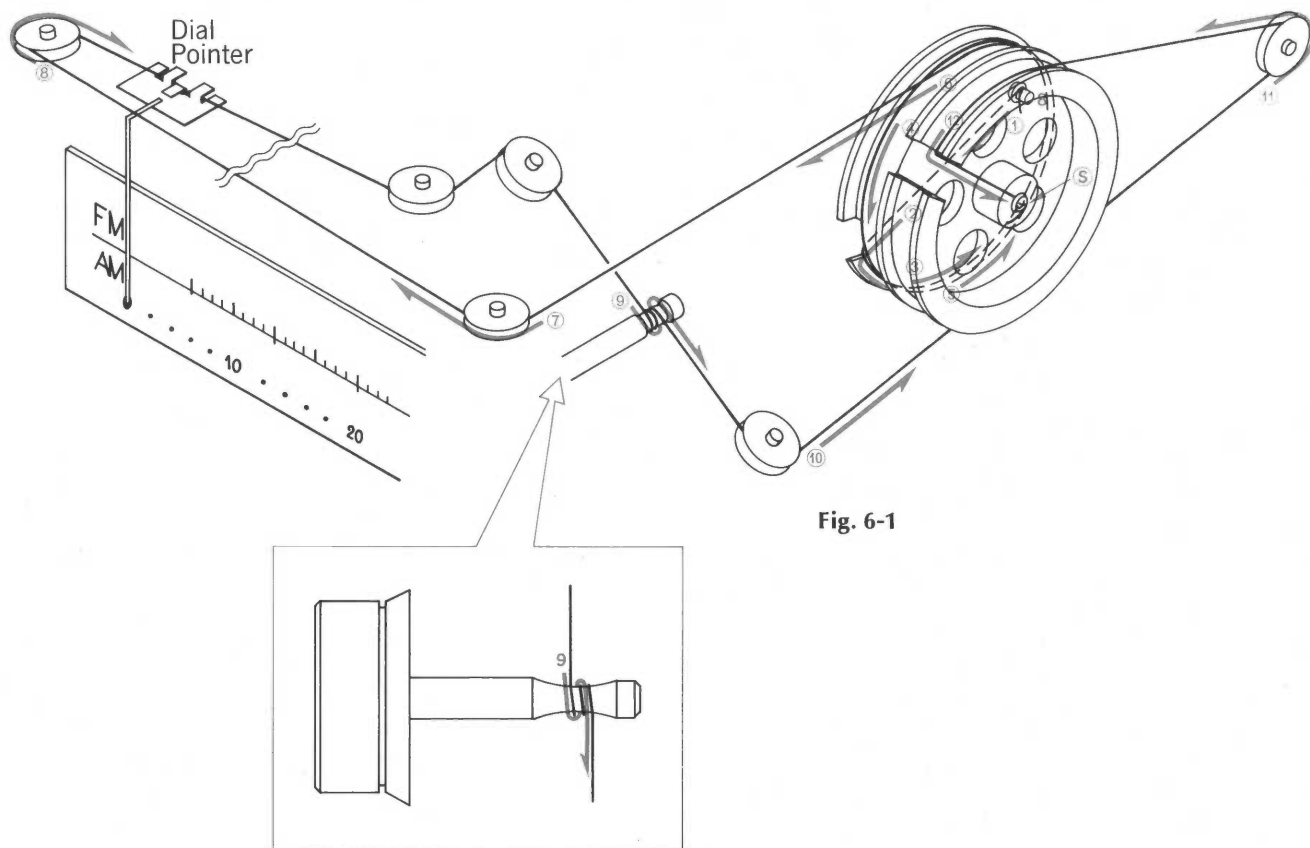

Fig. 6-1
Thread the dial cord in numerical order from ① to ⑫ as Fig. 6-1.
- 2) Only when you replace variable capacitor with new one, turn up the screw ⑤ completely so that the screw 8 on dial pulley is positioned as shown in Fig. 6-1.
- 3) Tie the cord to screw 8 and thread it in the direction of arrow from ① to ⑥
- 4) Then, after winding the cord 3 turns around the tuning shaft counterclockwise, thread it from ⑦ to ⑫.
- 5) After ⑫, tie the cord to the screw ⑤ of the dial pulley.
- 2) Set the dial pointer to the position on dial scale as shown in Fig. 6-1.